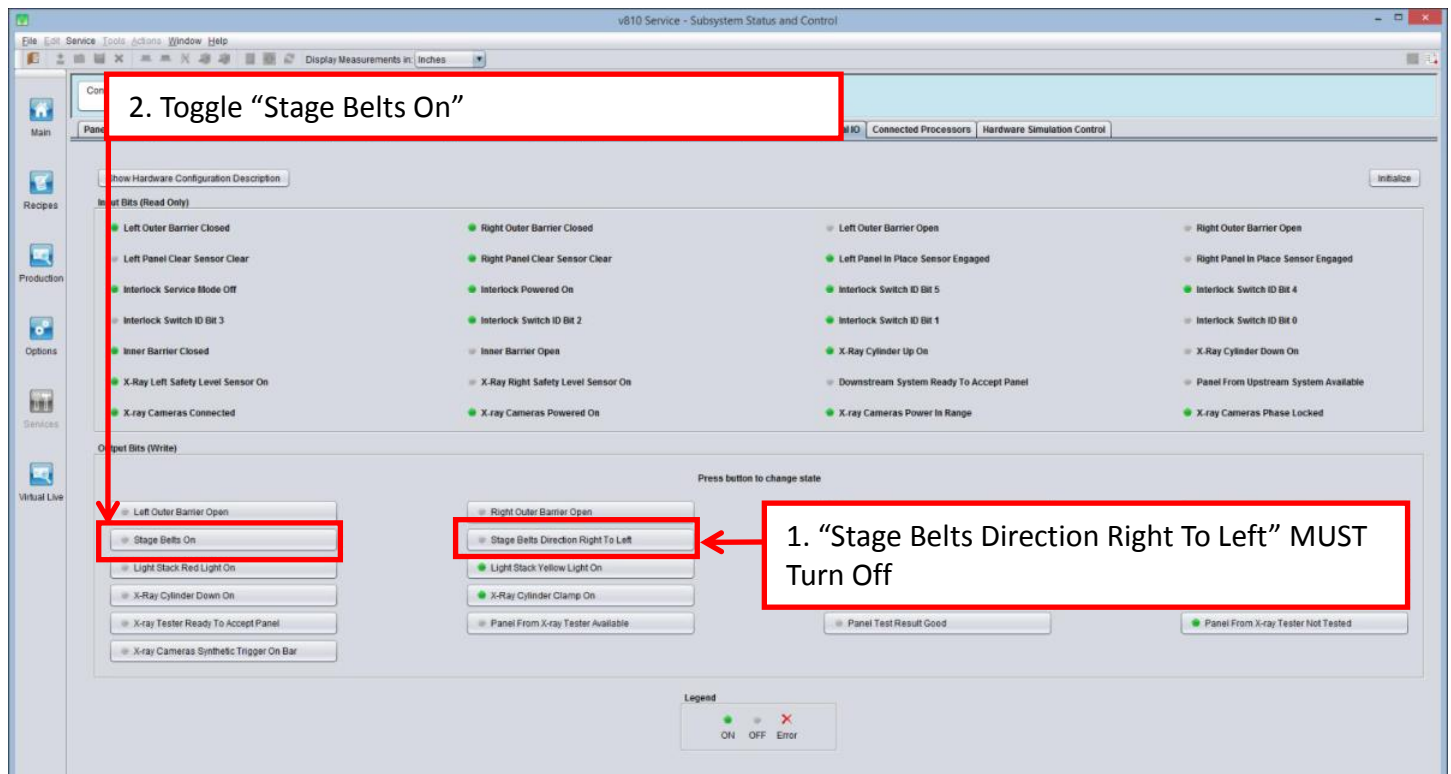

Figure 36 Digital IO
3. Toggle “Stage Belts On” as shown in Figure 36
Remarks : “Stage Belts Direction Right To Left” MUST Turn Off as shown in Figure 36.